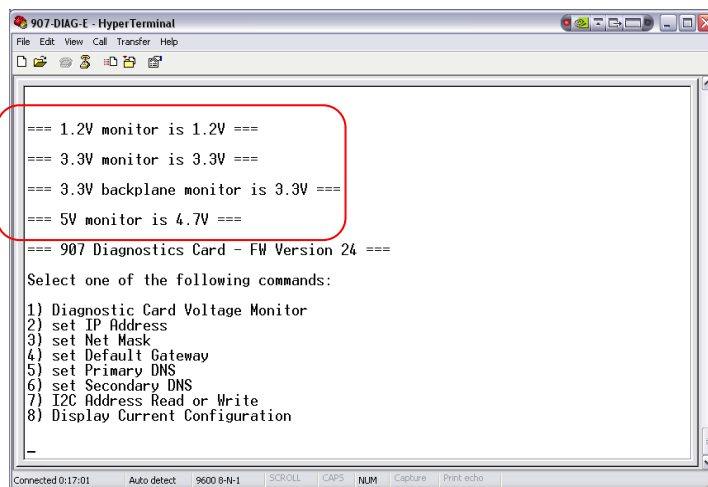

Figure 4-3: Voltage Monitor Display
Selecting menu item 1 will issue a display of all monitored voltages from the 907-DIAG-E card as shown in Figure 4-3. The 1.2V, 3.3V and 5V monitors show the voltage measured at three different on board voltage regulators that provide power to different components in the 907-DIAG-E diagnostic card.